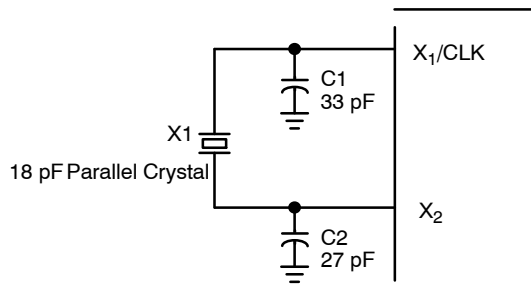

Figure 7. Crystal Input Interface
- The crystal should be fundamental mode, parallel resonant. Do not use third overtone. For exact tuning when using a crystal, capacitors should be connected from pins X1 to ground and X2 to ground. The value of these capacitors is given by the following equation, where CL is the specified crystal load capacitance: Crystal caps (pF) = $(CL - 5) \times 2$. So, for a crystal with 16 pF load capacitance, use two 22 pF caps, including board trace capacitance (see Figure 7).